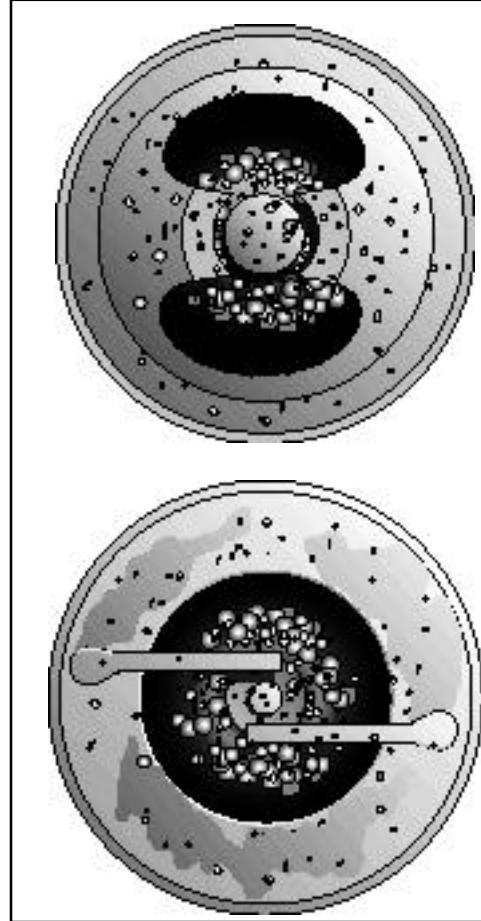

FIGURE 8-6a. Typical lead-fouled spark plug.
(2) Lead fouling is characterized by hard, dark, cinder-like globules which gradually fill up the electrode cavity and short out the plug. (See figure 8-6a.) The primary cause for this condition is poor fuel vaporization combined with a high tetraethyl-lead content fuel. A cold heat range may also contribute to this condition.